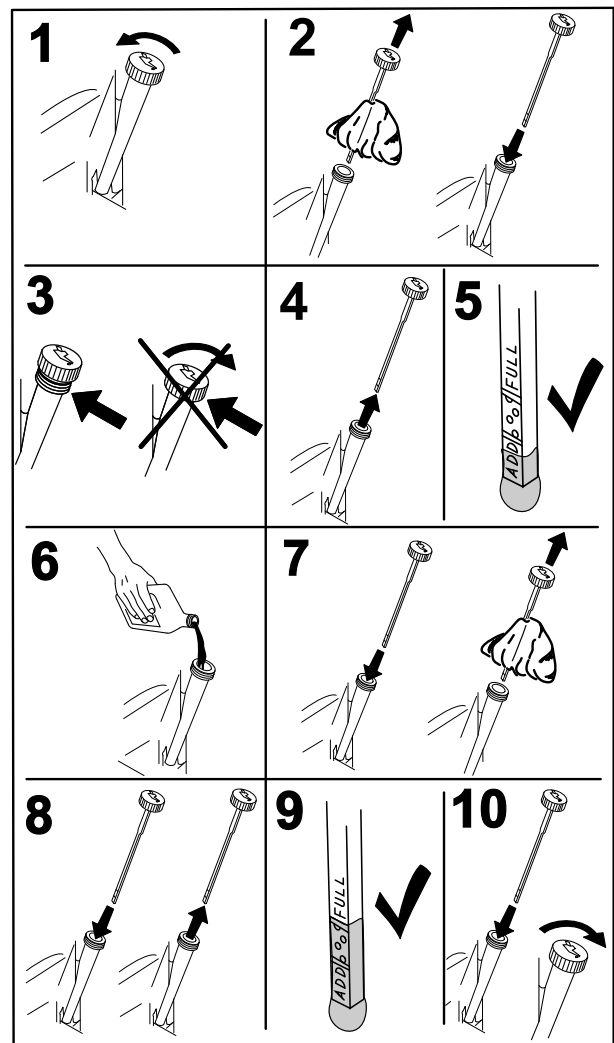

Figure 38
2. Stop the engine, remove the key, and wait for all moving parts to stop before leaving the operating position (Figure 38).